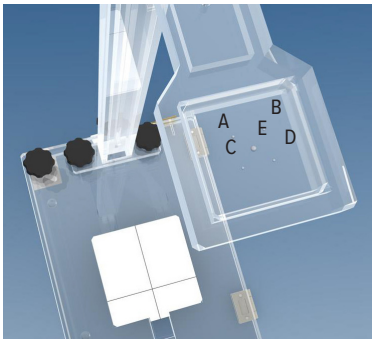

Figure 3. Pro-stand alignment
4. Place the 2-piece alignment device at the top and bottom of the Pro-Stand (Figure 3).